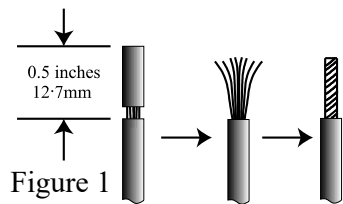

Figure 1
1. Carefully remove sufficient insulation from the cable ends, refer to figure 1. If the cable is stranded, carefully twist the strands together as tightly as possible.
- Carefully remove sufficient insulation from the cable ends, refer to figure 1. If the cable is stranded, carefully twist the strands together as tightly as possible.